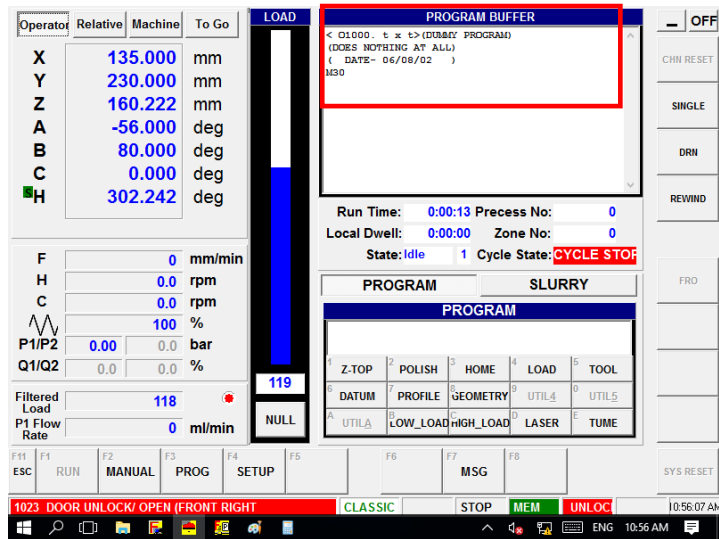

Figure 36 - Program Buffer window
7. Go back to the Zeeko GUI main screen and you will see the duplicate program displayed in the “Program Buffer” window. See (Figure 36 - Program Buffer window).